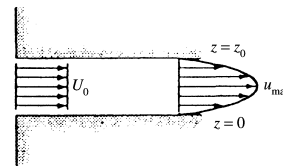

Fig. P3.17
3.17 Incompressible steady flow in the inlet between parallel plates in Fig. P3.17 is uniform, $u = U_o = 8 \text{ cm/s}$, while downstream the flow develops into the parabolic laminar profile $u = az(z_o - z)$, where a is a constant. If $z_o = 4 \text{ cm}$ and the fluid is SAE 30 oil at 20°C , what is the value of u_{\max} in cm/s?